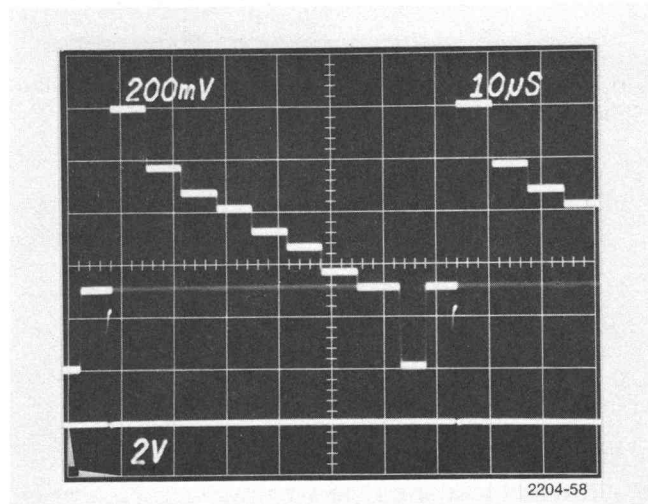

Fig. 6-11. Strobe Timing.
f. CHECK—for a strobe just prior to the trailing edge of blanking. See Fig. 6-11.